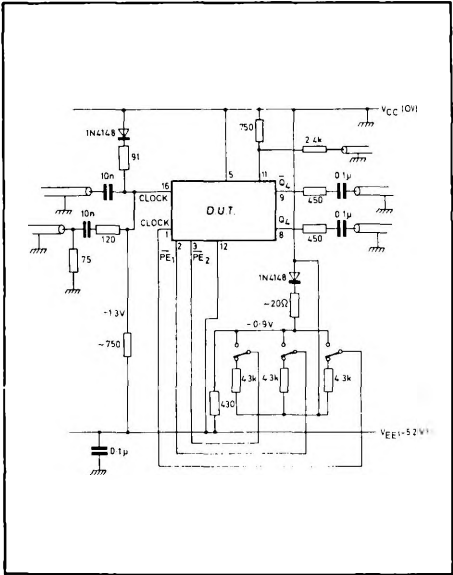

Fig. 5 Test circuit for dynamic measurements
4. The devices are dynamically tested using the circuit shown in Fig. 5. The bias chain has the same temperature coefficient as ECL III and ECL 10K, and therefore tracks the input reference throughout the temperature range. The devices are tested with input amplitudes of 400 and 800 mV p-p about that reference, over the full temperature range.